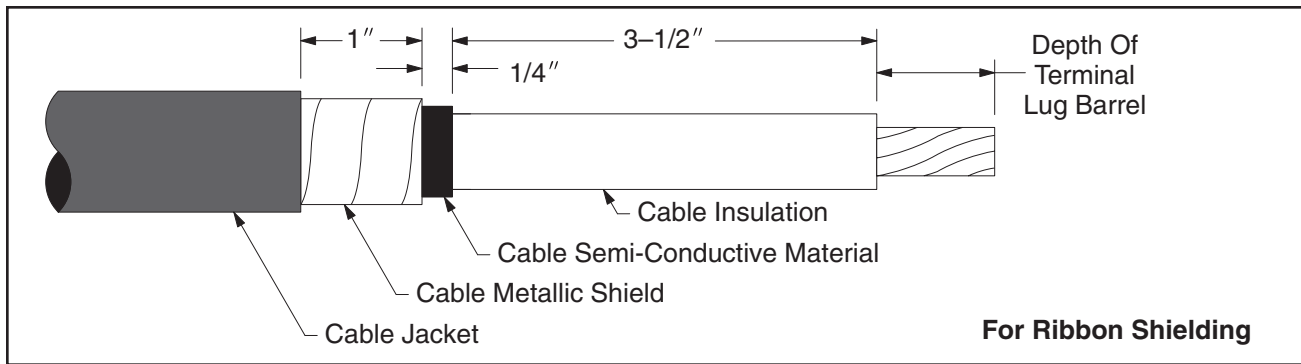

Figure 7a
**For Ribbon Shielded Cable** see *Figures 7a, 8a and 9a*.
5.5 Remove cable insulation for length recommended by terminal lug manufacturer; if no information is available, remove for depth of lug barrel. See *Figure 7a, 7b and 7c*, depending on type of cable shielding.